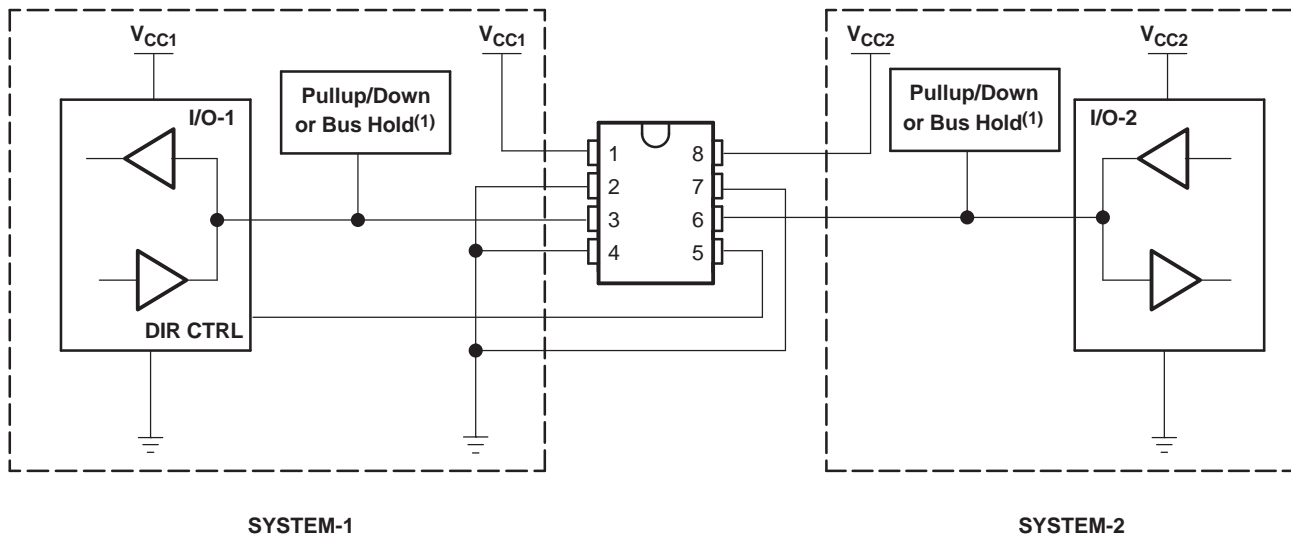

Figure 20. Bidirectional Logic Level-Shifting Application
Figure 20 shows the SN74LVC2T45 being used in a bidirectional logic level-shifting application. Because the SN74LVC2T45 does not have an output-enable (OE) pin, the system designer should take precautions to avoid bus contention between SYSTEM-1 and SYSTEM-2 when changing directions.